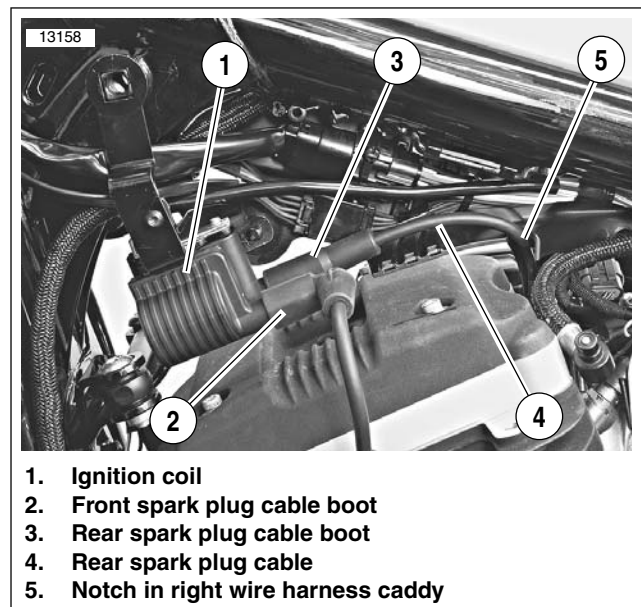

Figure 7-9. Spark Plug Cable Routing
6. See Figure 7-9. Pull front spark plug boot (2) and cable from left side ignition coil (1) tower.
1. See Figure 7-9. Plug rear spark plug cable boot (3) into right side ignition coil (1) tower. Route cable between wire harness caddies, and down through notch (5) in right caddy, toward right side of engine.
5. See Figure 7-9. Plug front spark plug cable and boot (2) into left side ignition coil (1) tower. Plug other end of cable onto front spark plug until it clicks.